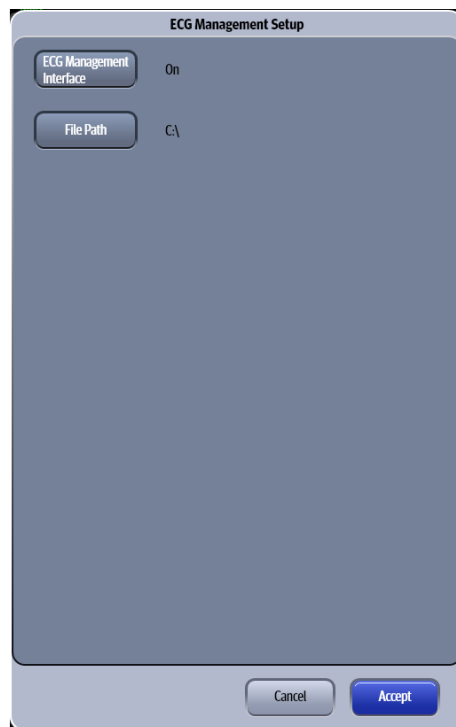

FIGURE 25-8 Example ECG Management Setup
When the 12 Lead Interpretation report is being printed, the 12 Lead interpretation as XML format is exported to the specified file path. ECG Management allows an authorized user to enable ECG Management and configure the file path (as shown in FIGURE 25-8).
3. Select the **Network** tab, then select the **ECG Management** button (as shown in FIGURE 25-8).